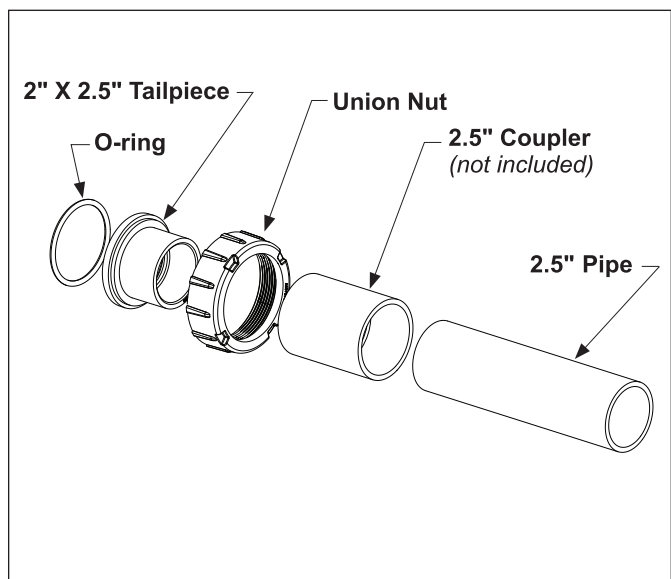

Figure 3. 2" X 2.5" Assembly Shown Connecting a 2.5" Schedule 40 Pipe
- c. For 2.5" pipe size, attach a 2.5" coupler (not included in the kit) onto the tailpiece. Attach the end of the 2.5" pipe to the other end of the coupler as shown in Figure 3.